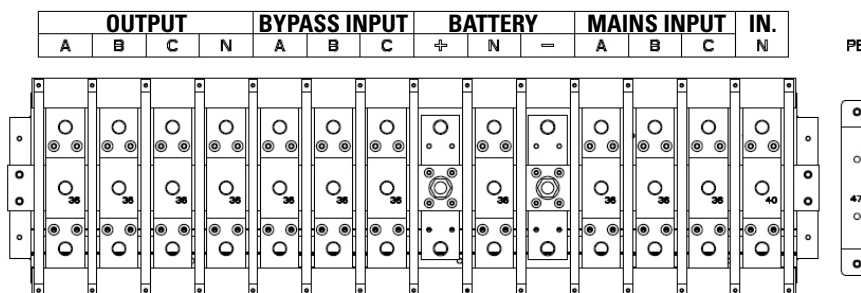

Fig. 49. Connection terminals for 500 kVA devices.
2. Open the back door of the cabinet and remove the plastic cover. The battery, earth and input and output terminals are shown in Fig. 49.